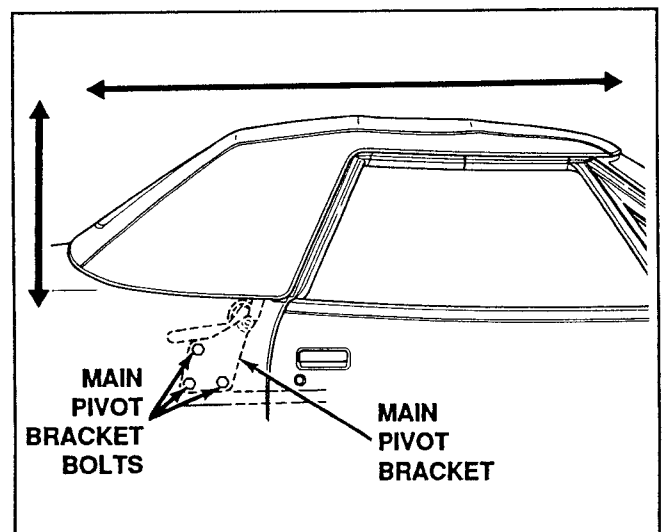

Figure 36. Adjust Main Pivot Bracket
2. Loosen the three bolts and adjust the roof up, down, fore, or aft, as needed. The bracket must remain in the same relationship after the adjustment (Fig. 36).